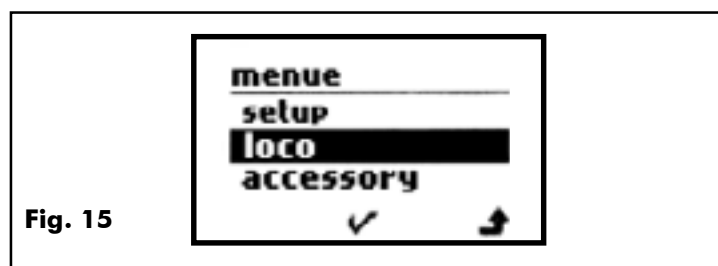

Fig. 15
- **Explicit:** Press the right selection button while in the main menu and select „Engine“ (Fig. 15)